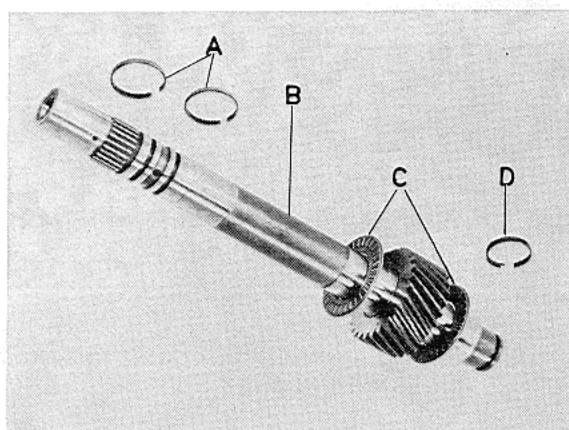

Fig. 68. Forward sun gear components
15. Place the front needle thrust bearing on the rear sun gear shaft. Fit the shaft in the rear clutch assembly. Install the oil sealing rings, see Fig. 68.